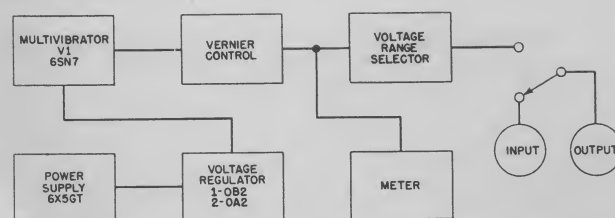

Fig. 2-4. Block diagram of voltage calibrator. Courtesy Hickok Electrical Instruments Co.
c. *Block Diagram of the External Calibrator* (Fig. 2-4). The block diagram shows that a regulated power supply furnishes voltage for the sine or square wave generator. The output control sets the amplitude of square wave coupled to the output of the calibrator through the range selector. The range selector is a calibrated attenuator which selects, in several ranges, a predetermined fraction of the sine or square-wave output. A meter or a calibrated dial indicates the output voltage of the calibrator.